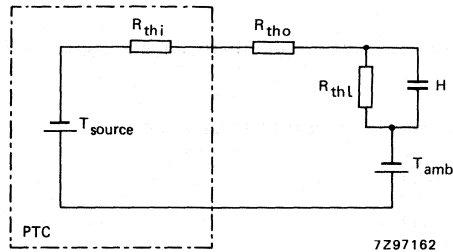

Fig.30 Thermal equivalent circuit.
Table 1 shows an analogy between electrical and thermal parameters and Fig.30 illustrates a thermal equivalent circuit.
The thermal circuit shown in Fig.30 can be used to:
The working point (F) should be selected to lie approximately half way up the slope of the R/T curve. The working point may be calculated using the temperature/power characteristic, which determines the heating power of the device. Provided the voltage is kept constant, it can be shown from the thermal equivalent circuit (Fig.30) and the formula for the calculation of power, that the temperature/power characteristic is linear as demonstrated in Fig.33.